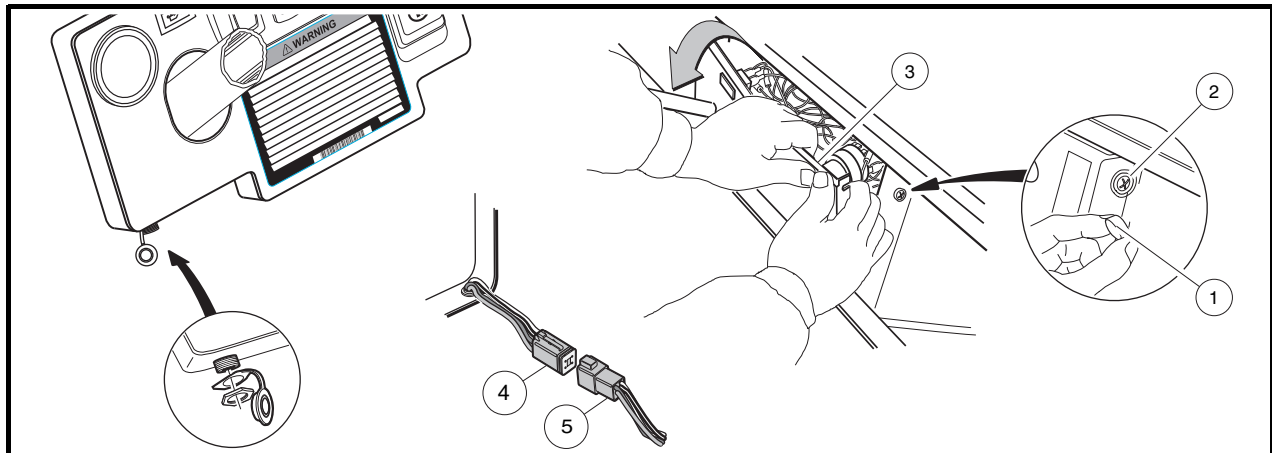

Figure 12-9 Testing IQDM Jack - Turf 1/Carryall 1
- 3.1. Remove the center dash panel (**Figure 12-9, Page 12-19**).
- 3.1.1. Remove the plastic cap (1) covering the mounting screw (2) on each side of the center dash panel (3) (**Figure 12-9, Page 12-19**).